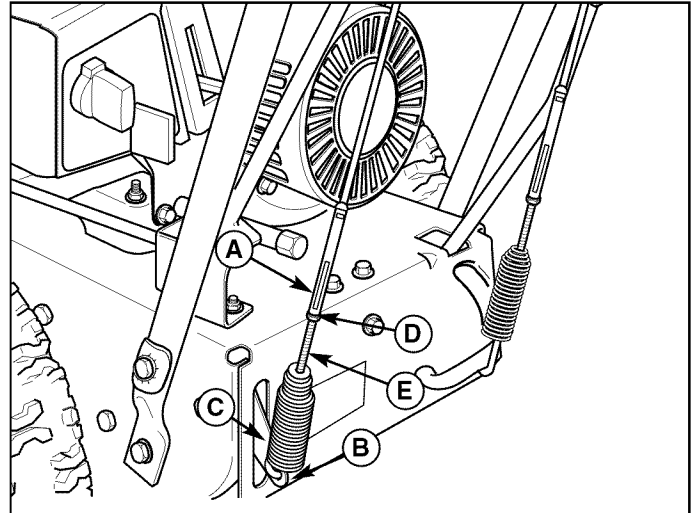

Figure 19. Traction Drive Adjustment
1. To adjust tension on the cable loosen adjustment hex nut (D, Figure 19) by holding the adjusting flats (A). Turn the adjustment screw. The adjustment screw is a phillips screw and the head can be held or turned by inserting a screwdriver through the traction drive clutch cable spring.